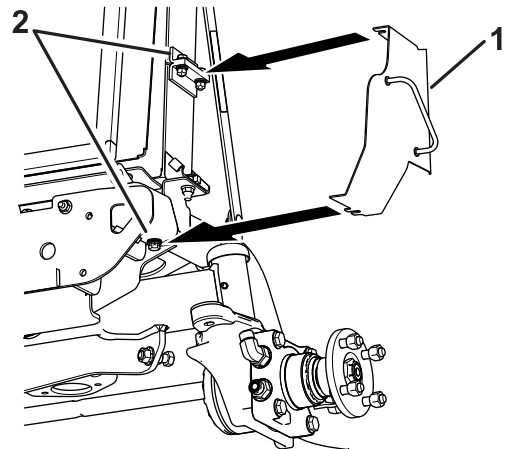

Figure 7
- Loosen the bolts on the side of the radiator (Figure 7).
- Slide the cooler-shroud bracket under the bolt heads on the radiator and bumper bracket (Figure 7).